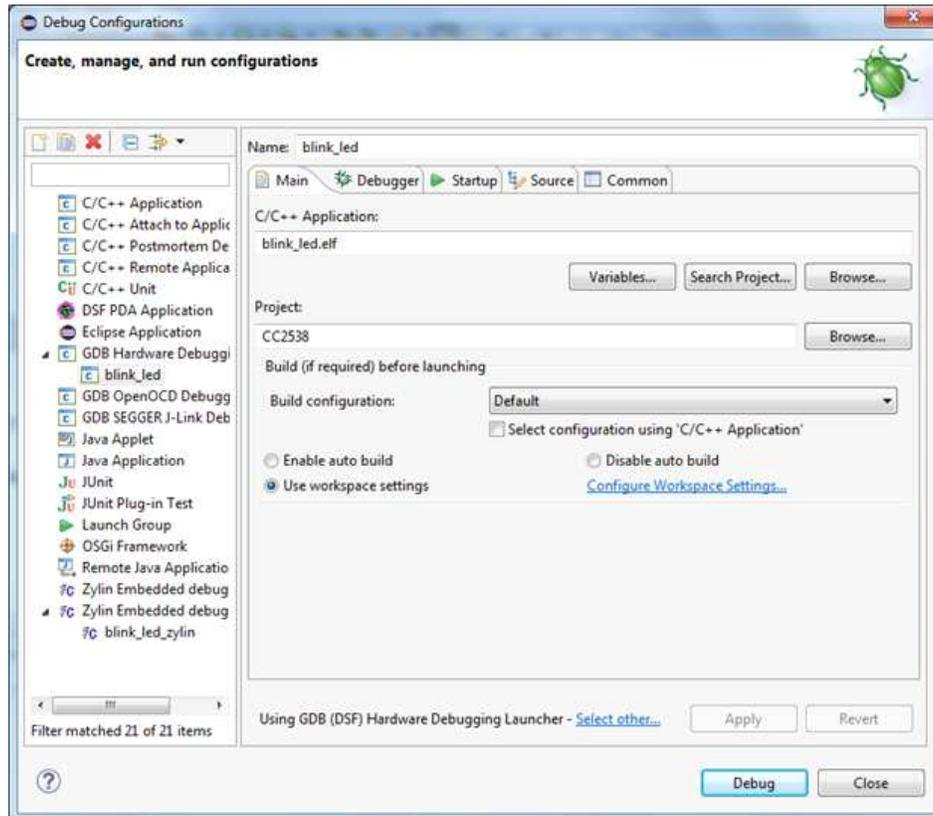

Figure 11. New GDB Hardware Debugging Window
3. Make sure that the settings in the Main tab are configured as in Figure 11.